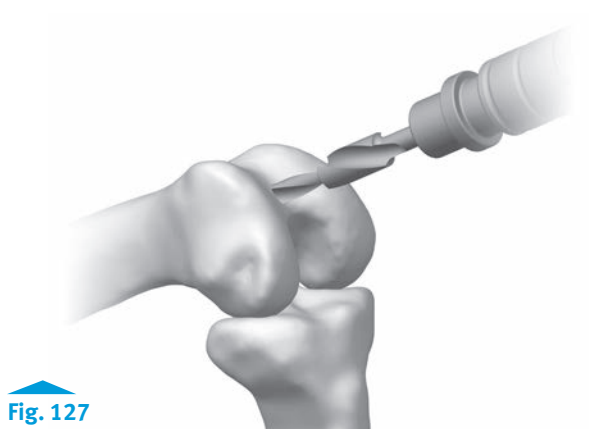

Fig. 127
- After attaining the desired soft tissue exposure, use the 8mm IM Step Drill to make a starter hole (Fig. 127).